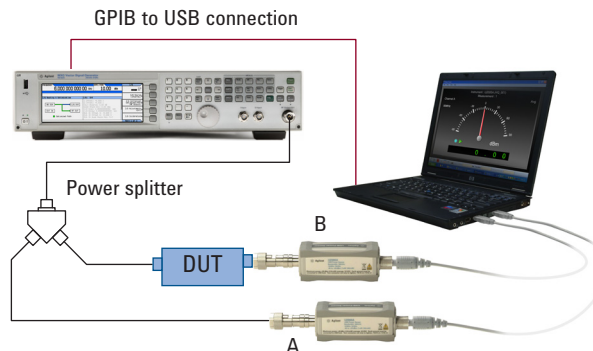

Figure 6. Leveled transmission measurement setup
1. Configure the USB sensors as shown in Figure 6.
Source match can be improved by calculating the ratio of the incident and reflected signals (Figure 6). With this technique, any variation in the incident signal is being ratioed out. Any re-reflections are seen by both sensors and when the ratio of transmission/reflected signal is obtained, the effect of source match is cancelled. A power splitter is a good choice for ratio technique due to its small size and broadband response. The source match in this case will be replaced by the output match of the power splitter.